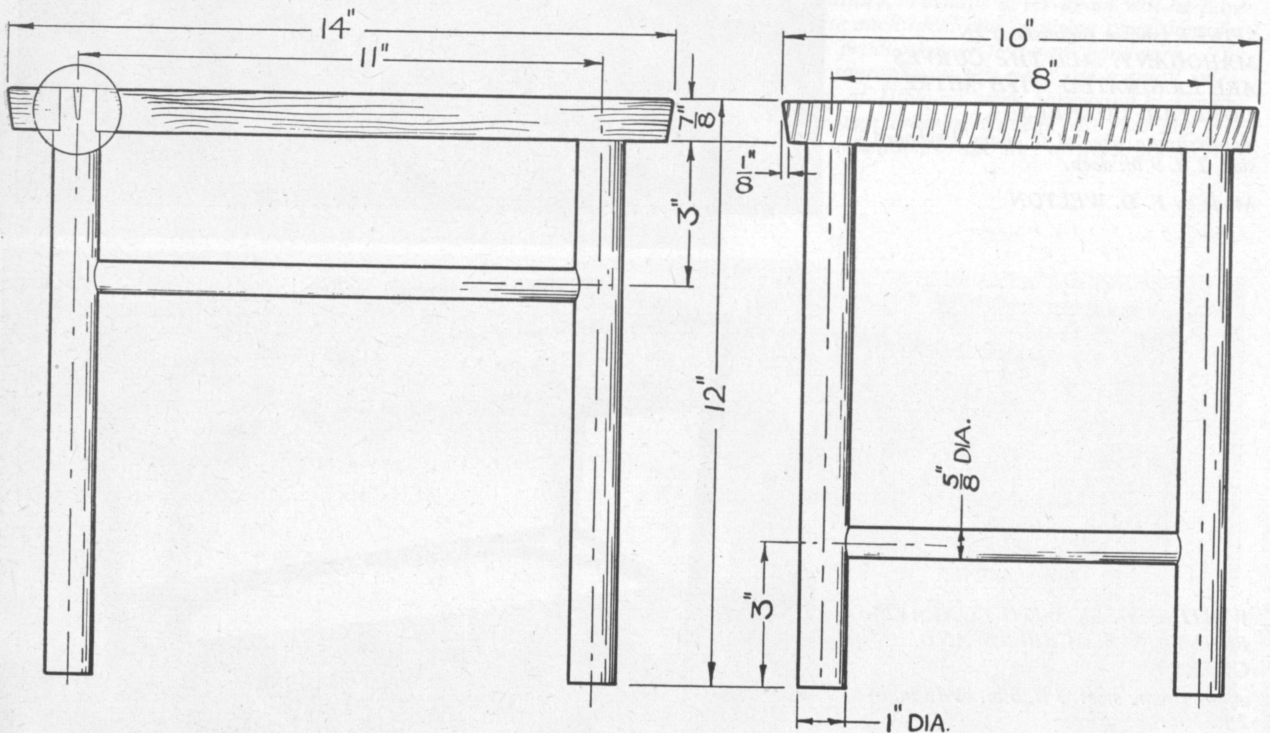
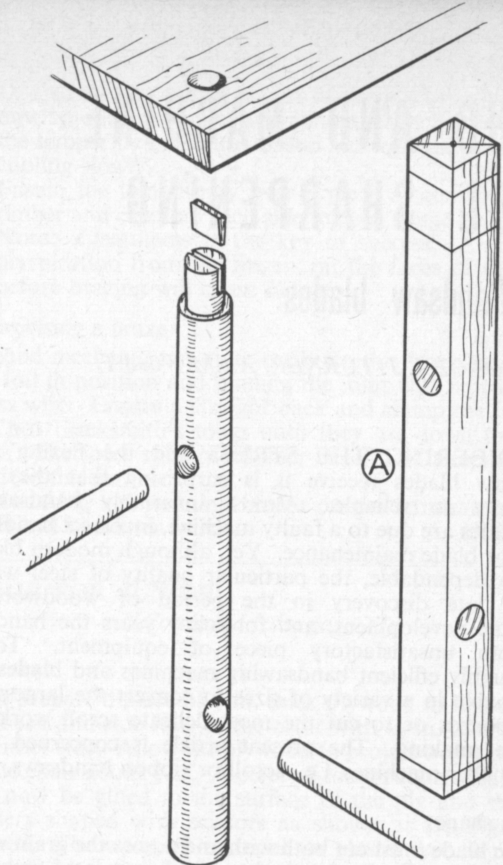

FIG. 2. ELEVATIONS OF STOOL WITH MAIN DIMENSIONS
FIG. 3. DETAIL OF JOINTS
The sizes given in Fig. 2 give good proportions, but need not be adhered to closely.
As will be seen from Fig. 2 these are turned parallel to 1 in. diameter, and at the top end of each a dowel is turned to $\frac{3}{8}$ in. diameter by $\frac{7}{8}$ in. long to fit a hole in the top board bored to receive it. As suggested by diagram (A), Fig. 3, it is a good idea to bore the holes in the legs to receive the rails before turning. This enables the holes to be bored at right angles to each other with a greater degree of accuracy than if done after the turning is complete. To prevent the edges of the holes from flaking while turning it is advisable though not essential to plug the holes temporarily with pieces of dowel rod, or with plugs specially turned. The plugs should only be pushed tightly into the holes so that they can be removed easily when the turning is complete. With this method care must be taken to measure accurately from the holes when cutting the dowel shoulders and when parting the legs off to length.
The legs can be finished and polished in the lathe, the only further operation necessary to finish work on them being to make a saw cut in each dowel end to receive a wedge. Note from Fig. 3 the position of the saw cut for the wedge in relation to the rail holes on each leg: it is important that the wedge is driven in so that its wide face is at right angles to the grain of the top board.
For this a $\frac{7}{8}$ in. selected board should be prepared to 14 in. long by 10 in. wide, and four $\frac{3}{4}$ in. diameter holes to receive the dowel ends of the legs bored in the positions indicated by the dimensions given in Fig. 2. The edge of the top should be finished as in Fig. 2, the shape consisting of a $\frac{1}{8}$ in. bevel with a pencil round taken off top corners.